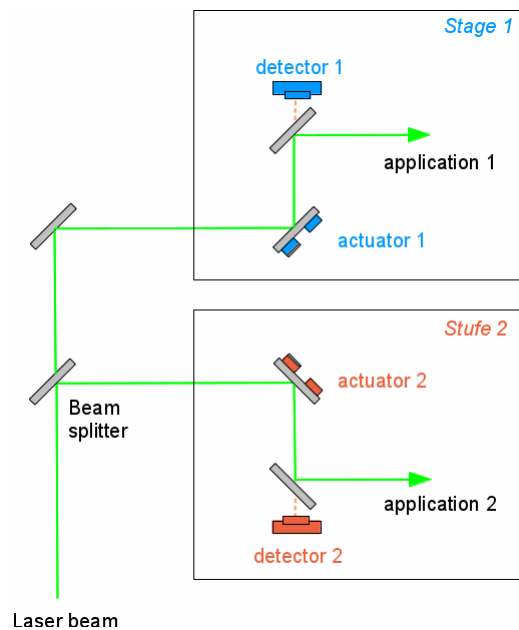

Figure 7e: Set-up of a 4-axes system used as two 2-axes systems. With this set-up the position of two independent lasers can be stabilised with one controller.
- Figure 7e finally shows a different arrangement where the 4-axes system is used as two 2-axes systems, i.e. the two stages of the controller are used to separately stabilize two independent beam lines.